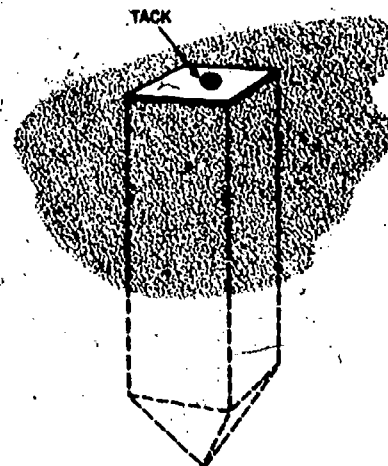

Fig 3-15. Hub stake.
g. Hub and guard stakes. A hub or hub stake (fig 3-15) is placed to show the exact location of survey line and station. The stake is driven even with the ground, and a tack is driven into the top to help the surveying crew in alinement work. A guard stake may be placed near the hub stake to help identify the hub and to protect it. Station identification is placed on the face of the guard stake.